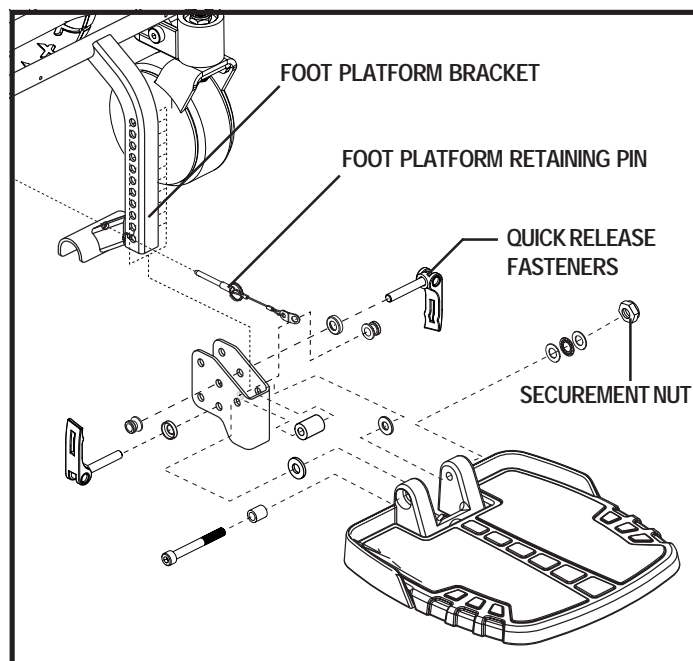
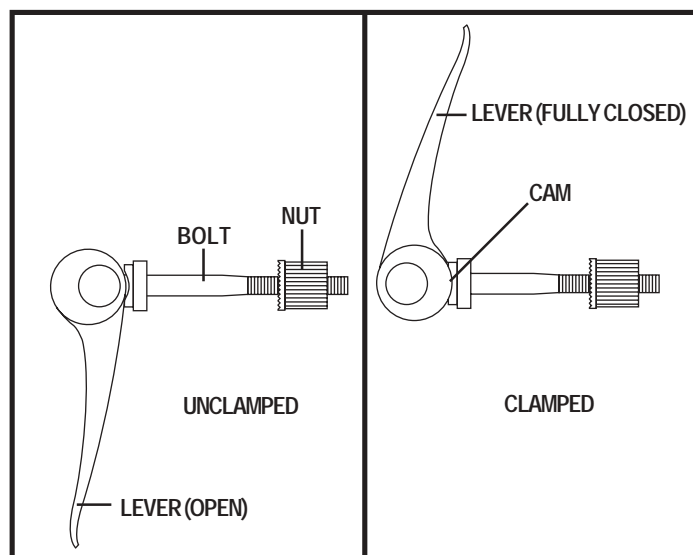

Figure 17. Foot Platform Height/Depth Adjustment
Figure 18. Quick Release Fastener Operation
1. Remove the quick release fasteners from the foot platform bracket. See figure 17.
Quick Release Fasteners: The foot platform is attached to the power base with two quick release fasteners. See figure 17. Each quick release fastener consists of a bolt, a lever and a nut. See figure 18. The lever has a cam on the end that allows it to clamp into place. The quick release fastener has two states: clamped and unclamped. When the lever is open, the quick release fastener is unclamped. When the lever is closed, the quick release fastener is clamped.